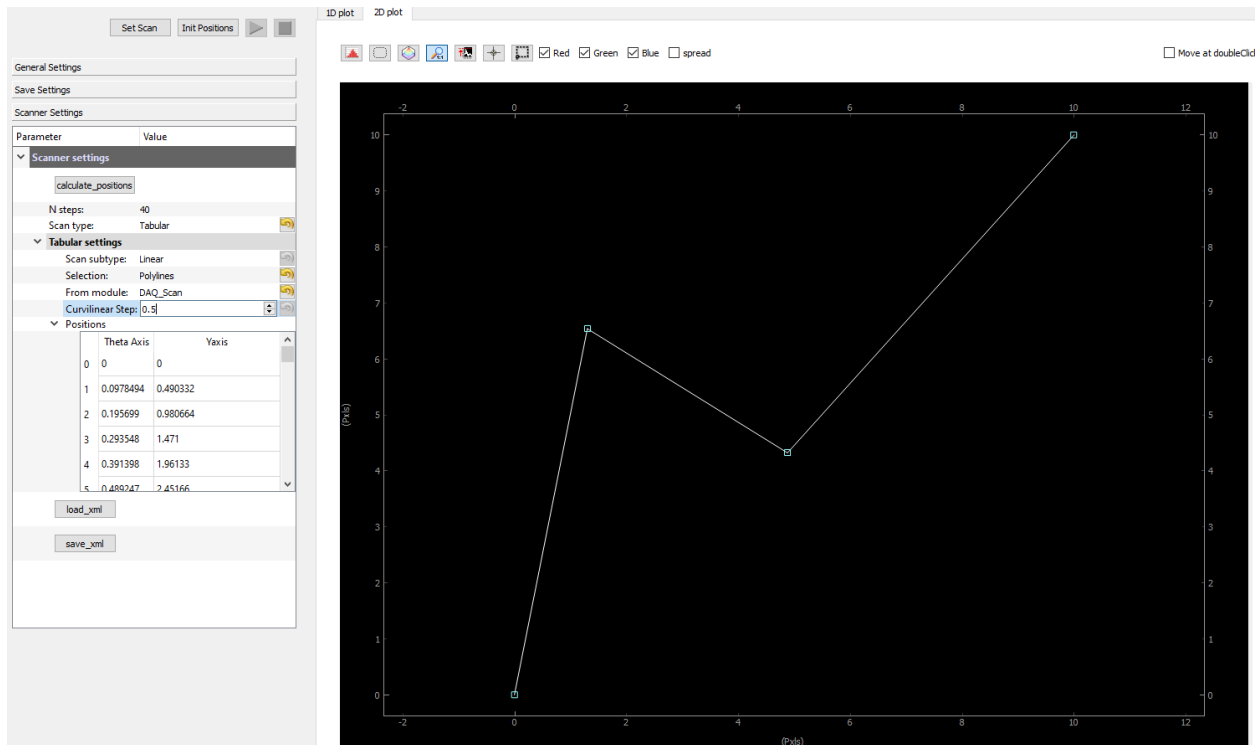

Fig. 7.38: An example of 1D complex sections selected within a 2D area
In the particular case of 2 selected actuators, it could be more interesting to draw the positions for the tabular scan. One possibility is to draw segments on a 2D viewer (see Fig. 7.38) and positions will be points along these segments (it will be a kind of 1D cuts within a 2D phase space). A new setting, *Curvilinear step* appears. The positions will be points starting from the start of the first segment and then step along them by the value of this setting. That gives, for Fig. 7.38, 40 points defined along the segments.
**Valid for 1 or 2 selected actuators.** The tabular adaptive case will be similar to scan1D adaptive mode, except that one adaptive Scan1D will be done for each segments defined by the list of positions in the table. For instance, Fig. 7.39 shows a list of 4 positions defining 4 segments in a 2D space. The adaptive scan will be done on/along these 4 segments. Positions can be set manually or from a *Polylines* selection as seen on Fig. 7.38.